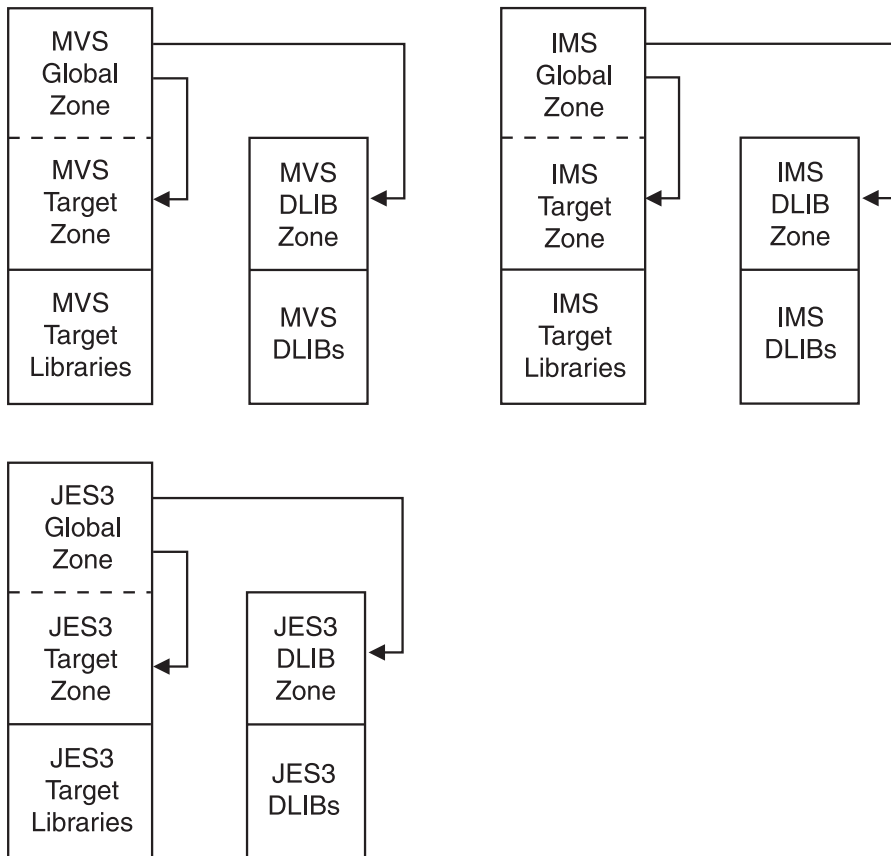

Figure 25. Using a separate global zone for each subsystem
*Example 1: Using a separate global zone for each subsystem:* In Figure 25 on page 54, the existing DASD structure for the libraries is maintained, and a separate global zone is defined for each of the subsystems (MVS, JES3, and IMS). This CSI structure keeps control of the three subsystems separate. You might use this structure if the system programming support for the three subsystems is organizationally separate. A disadvantage is that there is no single control point (global zone) from which to manage or query the entire system.